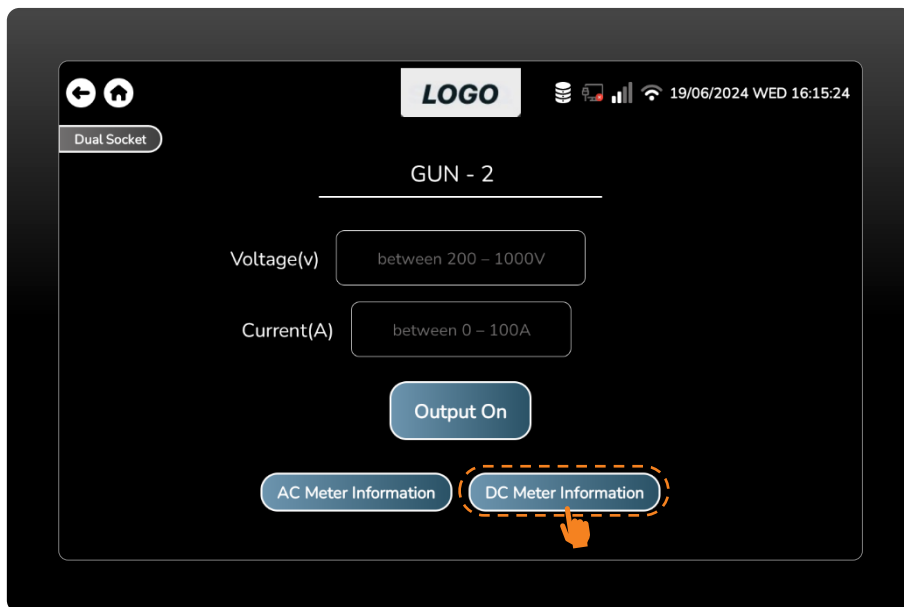

Figure 32 Press the DC Meter Information Button.
- Pressing the AC Meter Information button will open the DC information screen. (Figure 32)